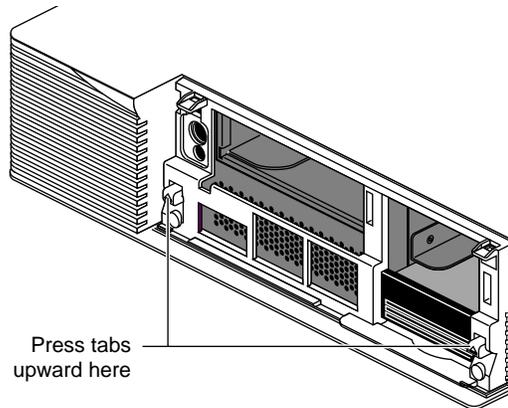

Figure 1-5 Pressing Up the Tabs
- Press up on the tabs on each side of the drive openings. See Figure 1-5.